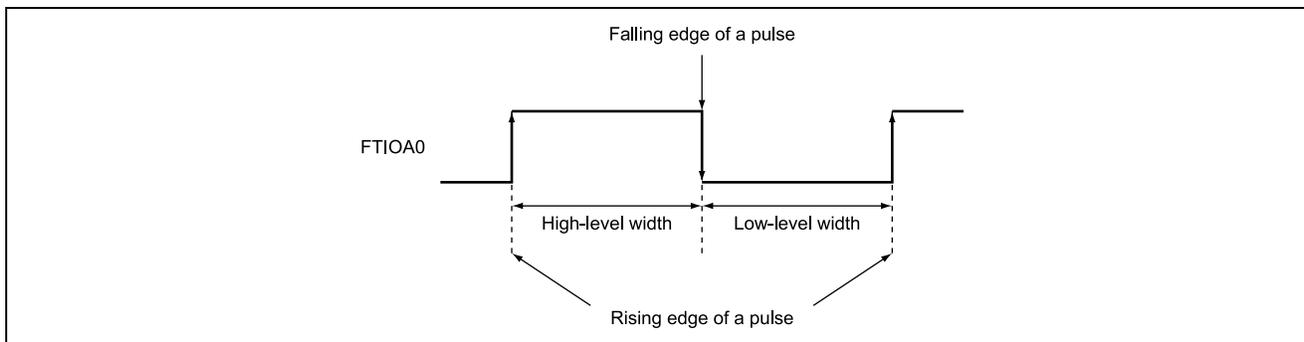

Figure 1.1 Measurement of Input Pulse Width
1. As shown in figure 1.1, the buffer function of timer Z input-capture function is used to measure the high-level width and low-level width of a pulse input to the input-capture pin A0 (FTIOA0).